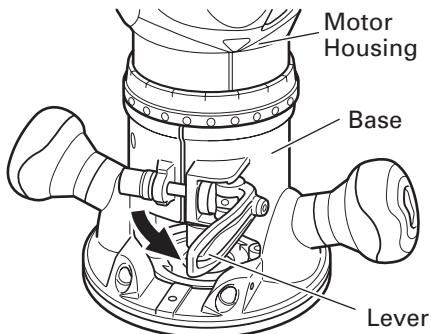
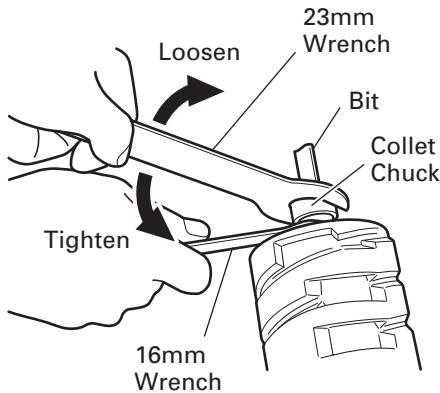

Fig. 2
Fig. 3
- (1) Remove the motor housing from base as follows.
- (a) Open the lever. (Fig. 2)
- (2) Clean and insert shank of bit into the collet chunk until shank bottoms, then back it out approximately 1/16" (approx. 2 mm).
- (3) With the bit inserted and 16 mm wrench holding the armature shaft, use the 23 mm wrench to firmly tighten the collet chuck in a clockwise direction (viewed from under the router). (Fig. 3)
- (4) When using the 1/4" diameter shank bit, replace the equipped collet chuck with the one for 1/4" diameter shank bit which is provided as the standard accessory.